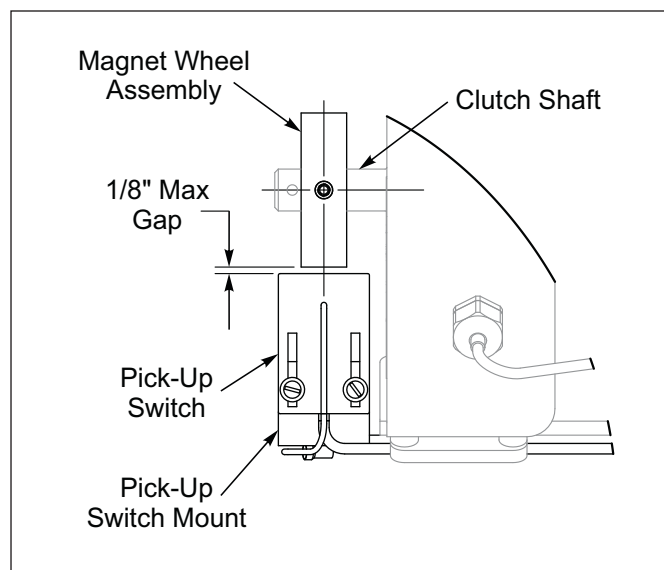

Figure 2-24: Pick-Up Switch Positioning
5. Press the Magnet Wheel Assembly onto the Clutch Shaft until it is vertically centered with the Pick-Up Switch. **See Figure 2-24.**
6. Adjust the Pick-Up Switch and Pick-Up Switch Mount so the centerline of the Magnet Wheel Assembly and Pick-Up Switch are horizontally and vertically aligned with maximum 1/8" between the Magnet Wheel Assembly and Pick-Up Switch. Tighten all Screws. **See Figure 2-24.**